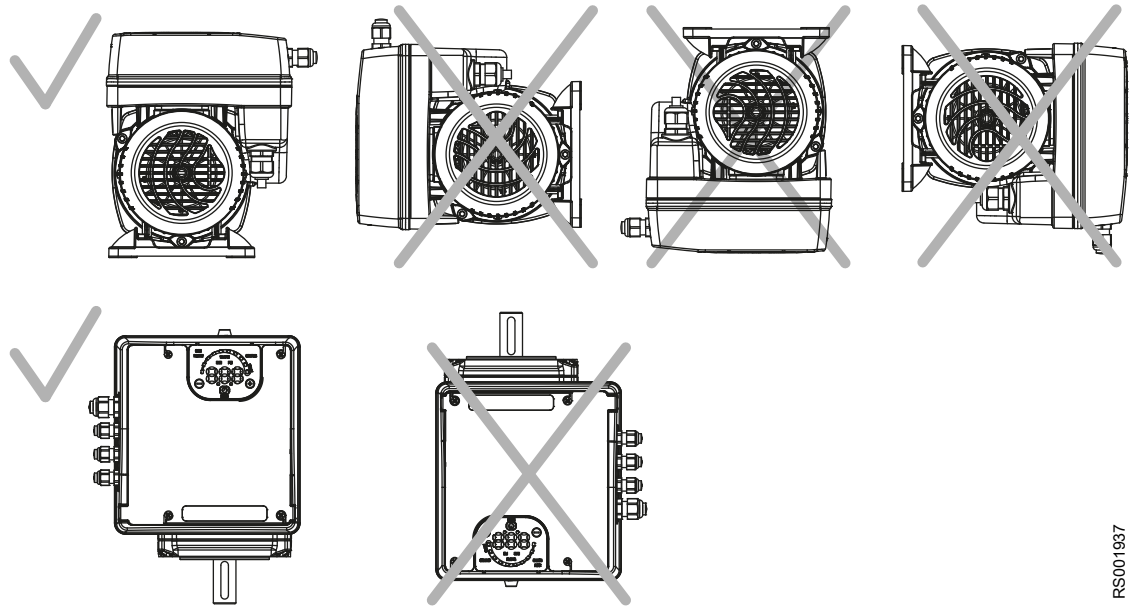

Figure 3: Permitted positions
- Position the unit as shown in Figure 3.